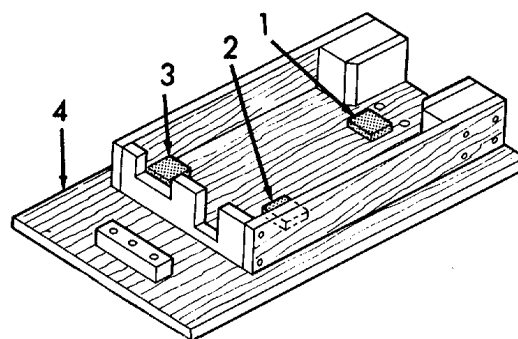

Figure 5-21. Shock Absorber, Replacement.
(2) Replacement of any of the felt shock absorbers as follows (refer to Figure 5-21):
- (a) Remove old shock absorbers (1, 2, or 3) from tray (4) by scraping it off.
- (b) Install new shock absorber (1, 2, or 3) to tray (4) using adhesive (Appendix E, item 7).